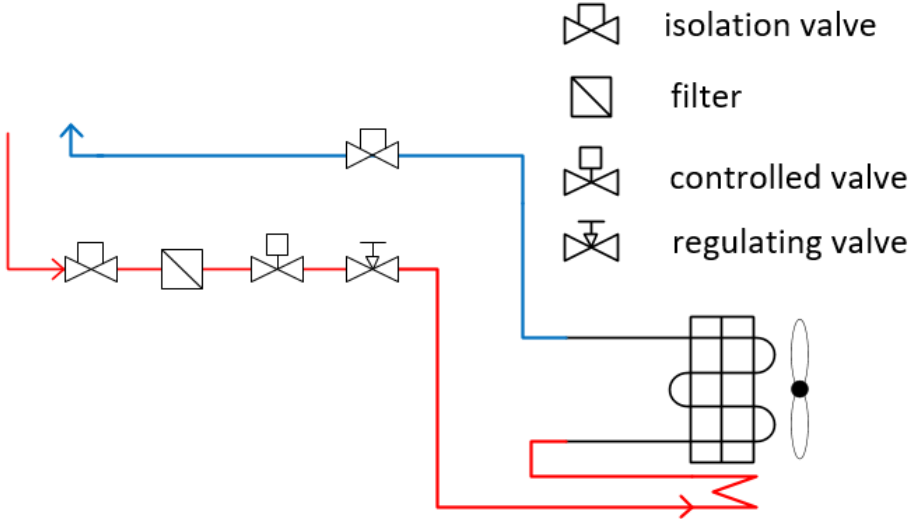

Figure 5: series connection glycol defrosting
- glycol inlet in drip tray; outlet coil (Figure 5)
**Case 1: series connection (Figure 5): inlet air temperature > -10 °C**